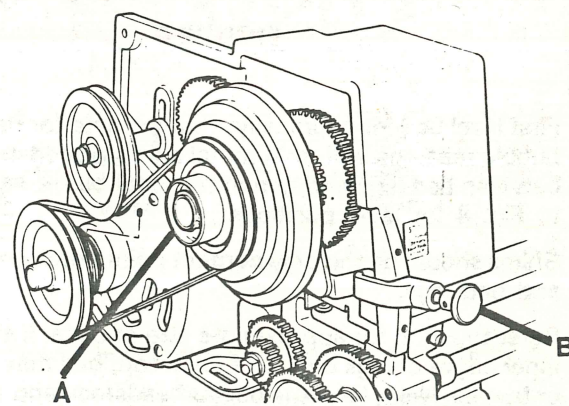

FIGURE 7
3. Pull coupling (A Figure 7) to disengage pulley and gear.
4. Push on coupling (A Figure 7) and turn spindle pulley by hand until coupling slides in, locking pulley and gear together.
LEAD SCREW DIRECTION LEVER (B Figure 7) has three positions. Center position is neutral — gear train is disengaged and lead screw does not turn. The upper and lower holes are either forward or reverse positions depending on the gear set up.